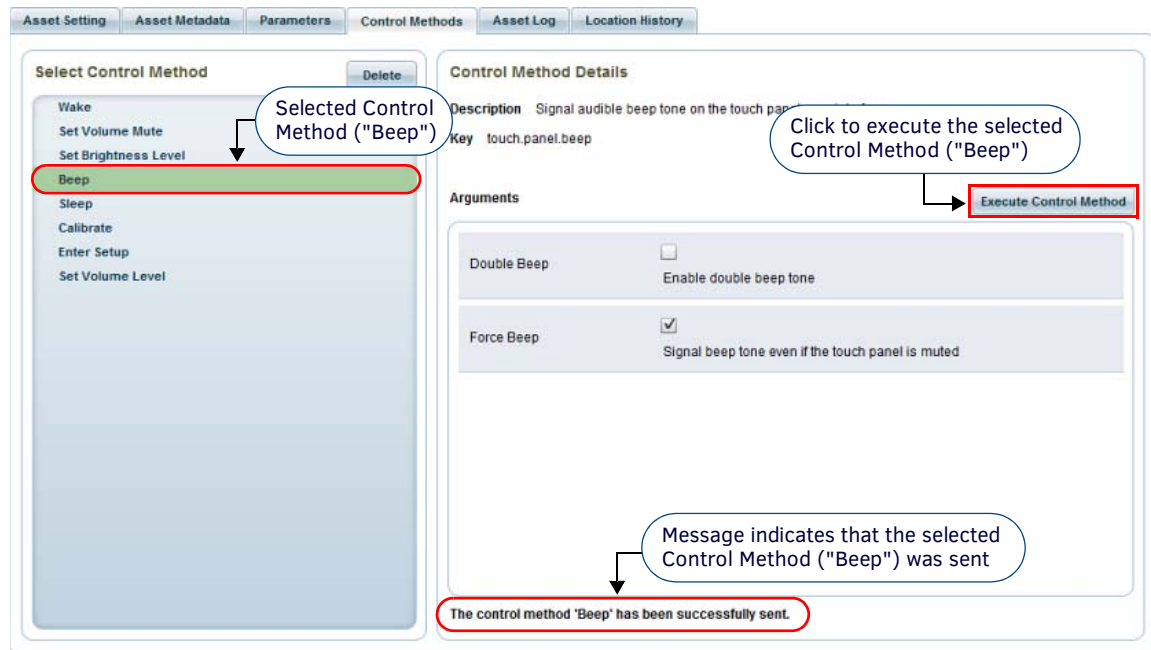

FIG. 265 Asset Management page - Control Methods tab
6. The application returns a message at the bottom of this window indicating that the selected Control Method was sent (FIG. 265):